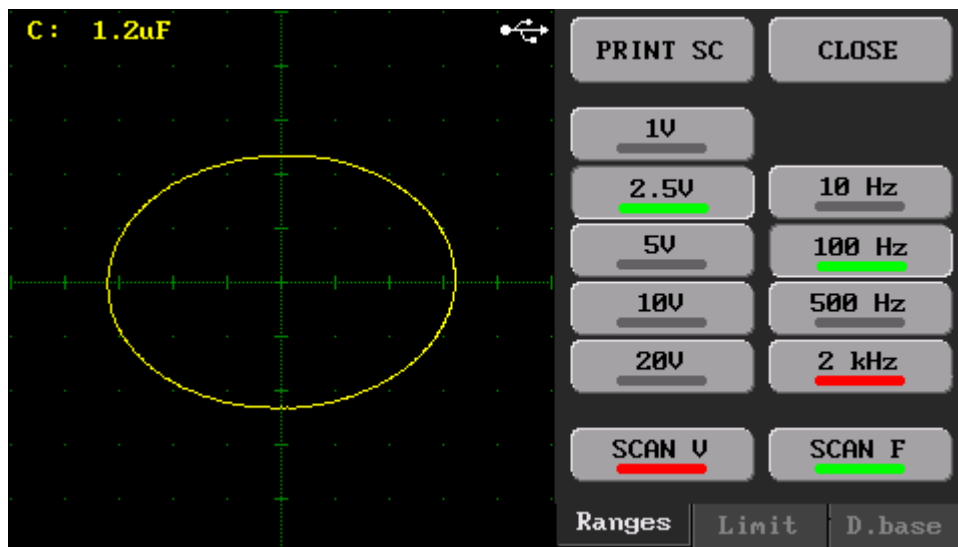

Figure 5. Scan\_F Mode overview (2kHz level canceled)
**SCAN\_F:** Scans the Frequency levels per second. When the level that is not wanted to be scanned is pressed for more than 2 seconds, that level is disabled. Inactive levels are marked in red. If it is desired to be activated again, 2 sec. is held down (Figure 5).